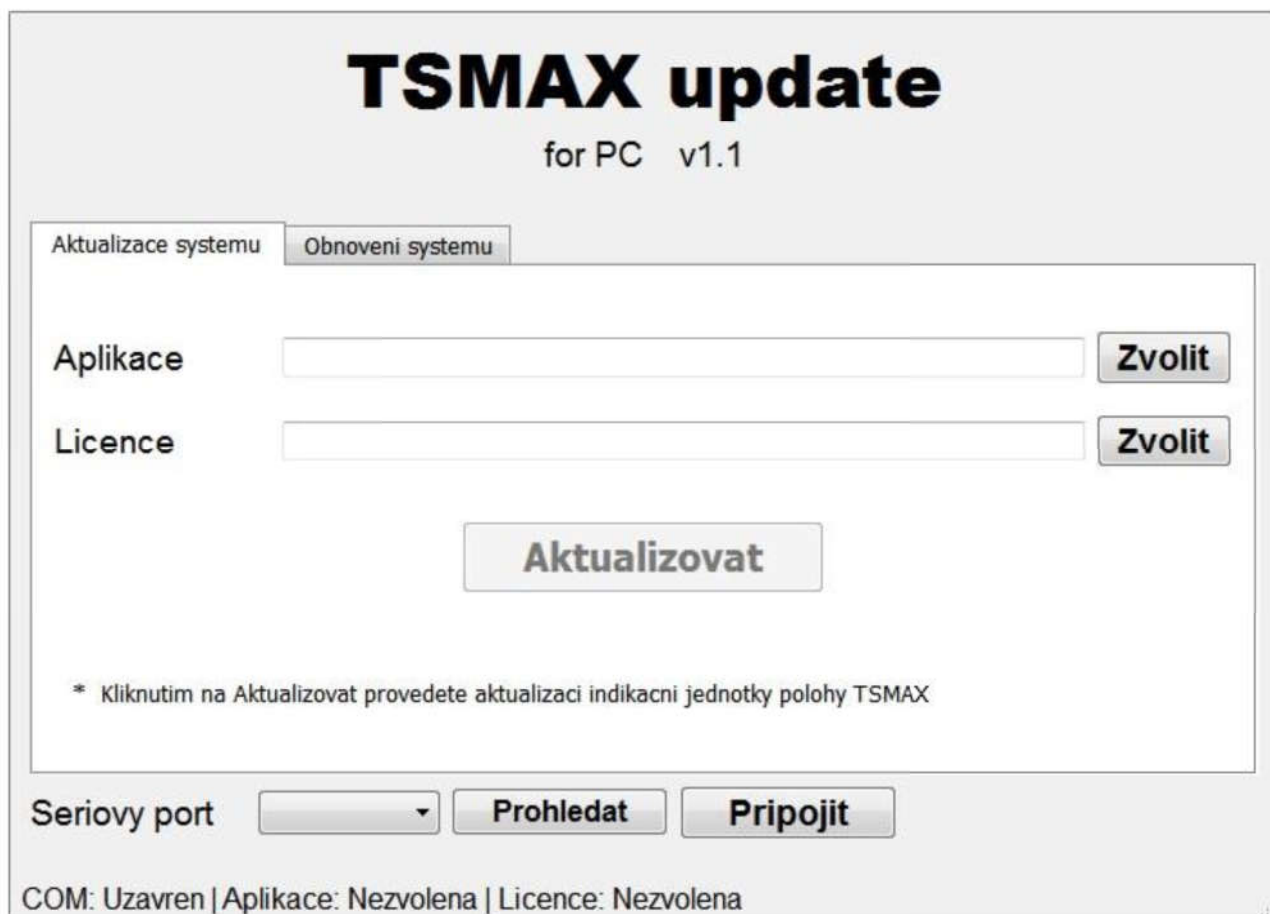

Fig. 52: System update – initial screen
- ⑩ To update the system TSMAX to higher version of the system by means of PC it is necessary to install program „TSMAX Update PC“.
- ⑩ Connect the readout unit by means of series interface (RS 232) to PC and start program “TSMAX Update PC“.
- ⑩ It displays the initial screen of the update program (see fig. 52: System update – initial screen).
- ⑩ The lower side of the window includes the status line which informs on the whole update procedure.